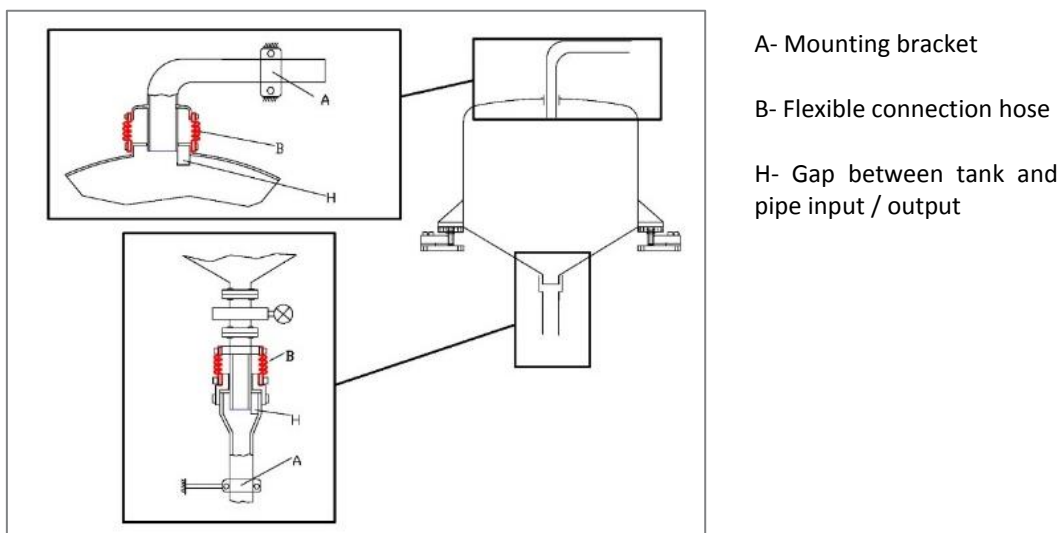

Fig. 3-a: Inlet and outlet connections
4. **Flexible joints** on the connections in inlet and outlet vertical product Fig.3-a.